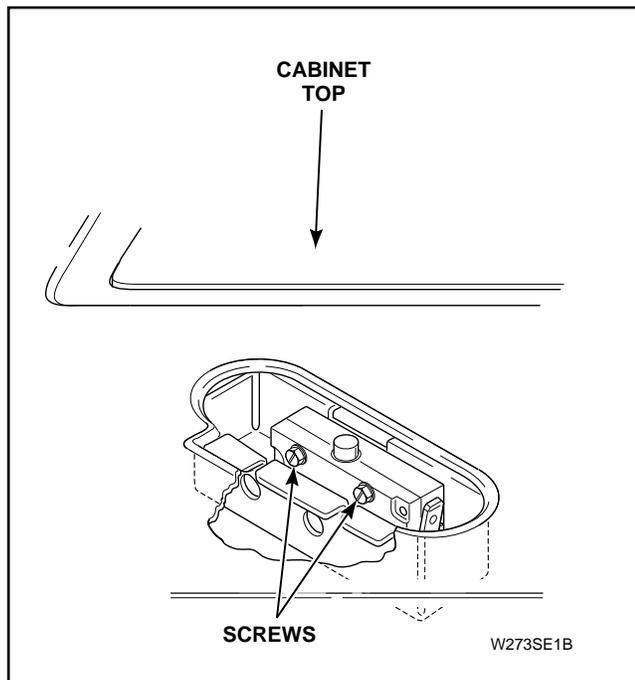

Figure 31
- Use an open-end wrench, remove screws holding switch to switch holder, *Figure 31*.
- Place switch assembly into switch holder, *Figure 31*.